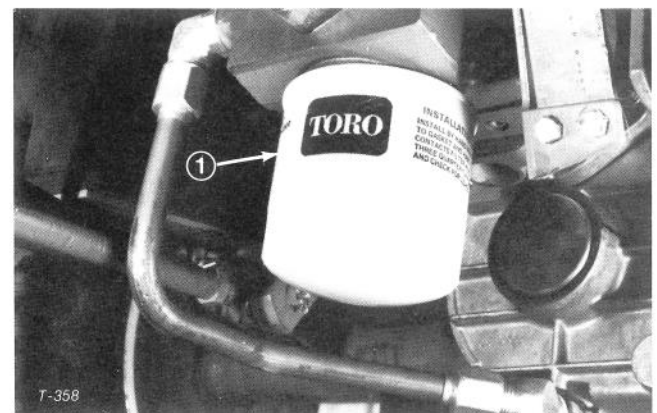

Figure 78
1. Clean area where hydraulic oil filter mounts. Remove filter from transmission (Fig. 78) and clean oil filter mounting surface on bottom of transmission.